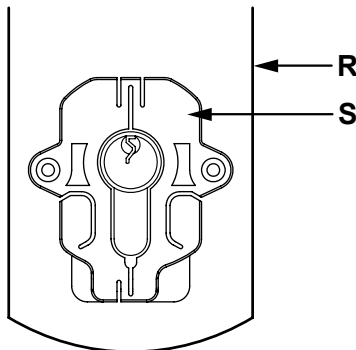

Fig. 6: Base fastener with door leaf
- Fig. 6: Base fastener with door leaf 35
- Loosen the screws **(A)** for the base fastener **(S)** (see fig. 6) on the left and right of the door lock drive with the Allen key supplied.